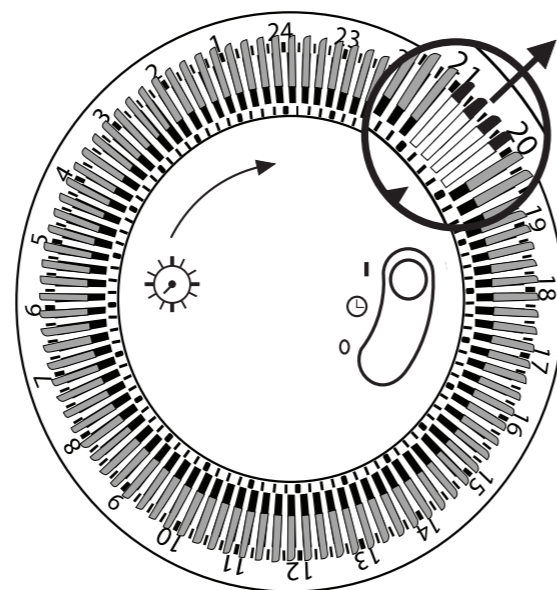

Fig 1
1. Turn the radiator upside-down on a scratch-free and stable surface to prevent damage to the paint finish or your floor surfacing (see Fig 1).
Note: To set the heater to turn on at 8pm and turn off at 9pm, push 4 segments between 20 and 21 outwards (Fig 1).